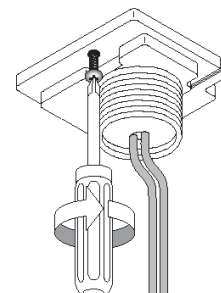

Fig.5
13. Install the Quick Cable Connection with 1 screw. (Figure 5)